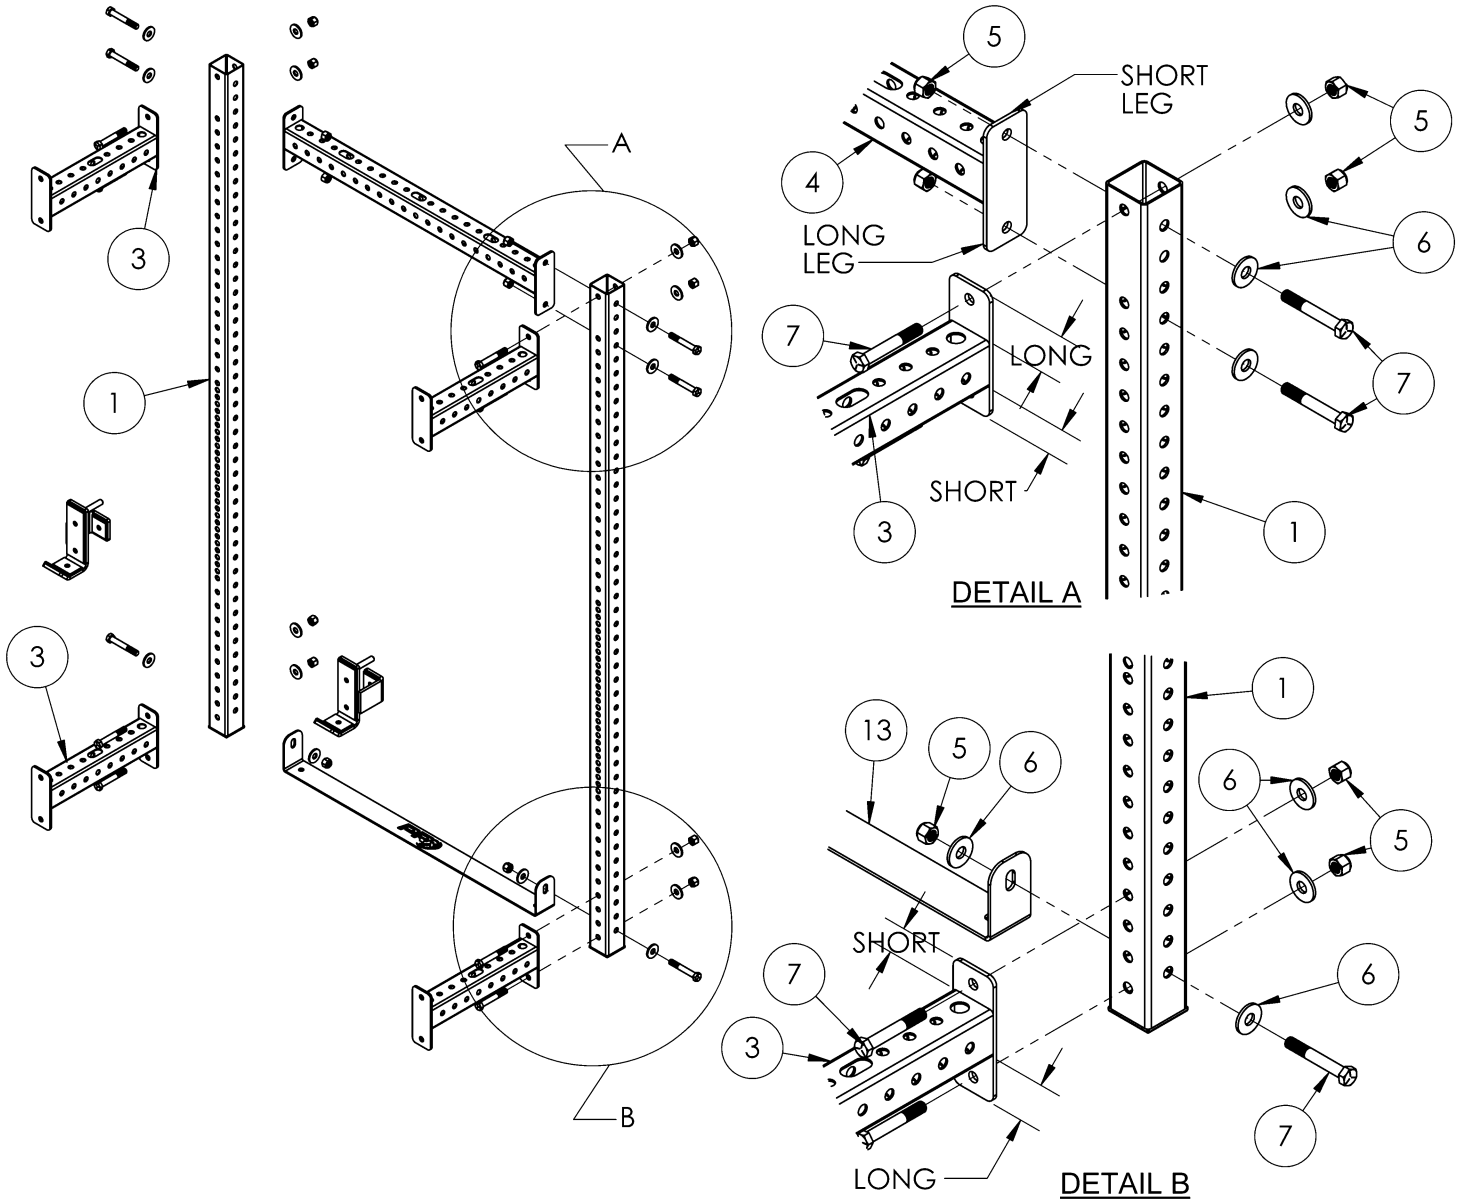

Figure 1
1. Attach Short Crossmembers (3) and Long Crossmember (4) to the top of the rear Uprights (1) with the hardware shown. **Figure 1, Detail A**
*NOTE 1: Numbers and PRx logo at the top of the uprights are shown facing the rear of the rack. Customers can choose to rotate the uprights 180 degrees, so the logo and numbers are facing the front. **Figure 1, Detail A***
*NOTE 2: Short Crossmembers at the top of the Uprights should be oriented with the long leg of the end plates facing upward and the short leg facing down. This will be the opposite for the Long Crossmember (4) across the top/rear of the rack. This is to account for the offset holes in the uprights and keep the tubes of the crossmembers at the same height. **Figure 1, Detail A***
2. Attach Short Crossmembers (2) to the front/bottom of the Uprights (1) with hardware shown.
*NOTE: The Bottom Crossmembers are oriented opposite the top, with the long leg of the end plates facing downward and the short leg facing upward. **Figure 1, Detail B***
3. Attach the Floor Spreader Plate (13) between the bottoms of the Uprights (1) with hardware shown. **Figure 1, Detail B**